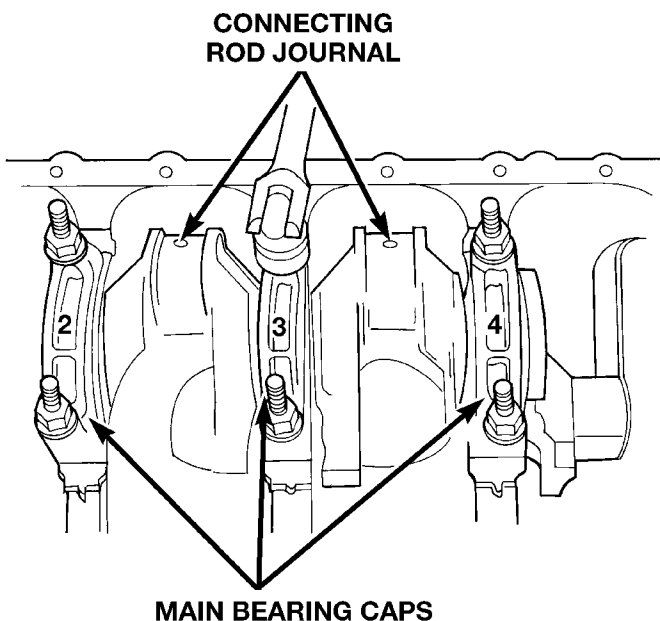
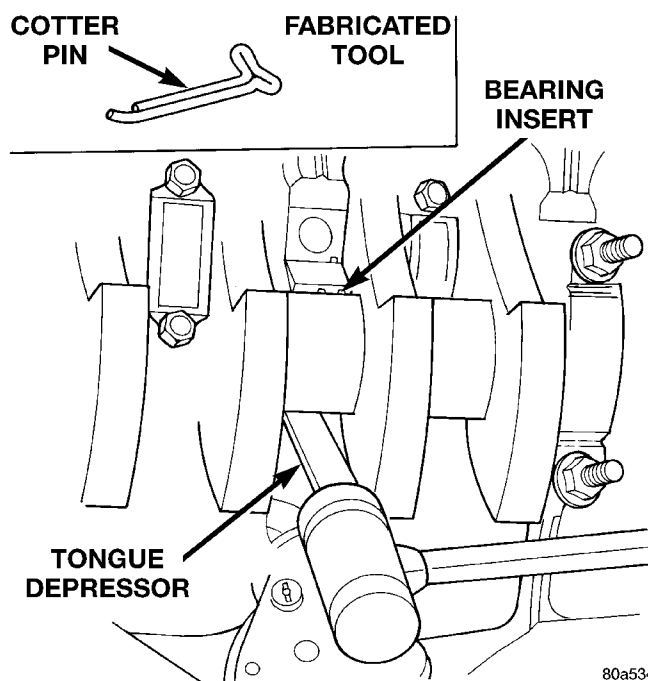

Fig. 51 Removing Main Bearing Caps and Lower Inserts
Fig. 52 Removing Upper Inserts
(6) Remove only one main bearing cap and lower insert at a time (Fig. 51).
(7) Remove the lower insert from the bearing cap.
(8) Remove the upper insert by LOOSENING (DO NOT REMOVE) all of the other bearing caps. Now insert a small cotter pin tool in the crankshaft journal oil hole. Bend the cotter pin as illustrated to fabricate the tool (Fig. 52). With the cotter pin tool in place, rotate the crankshaft so that the upper bearing insert will rotate in the direction of its locking tab. Because there is no hole in the No.3 main journal, use a tongue depressor or similar soft-faced tool to remove the bearing insert (Fig. 52). After moving the insert approximately 25 mm (1 inch), it can be removed by applying pressure under the tab.
(9) Using the same procedure described above, remove the remaining bearing inserts one at a time for inspection.